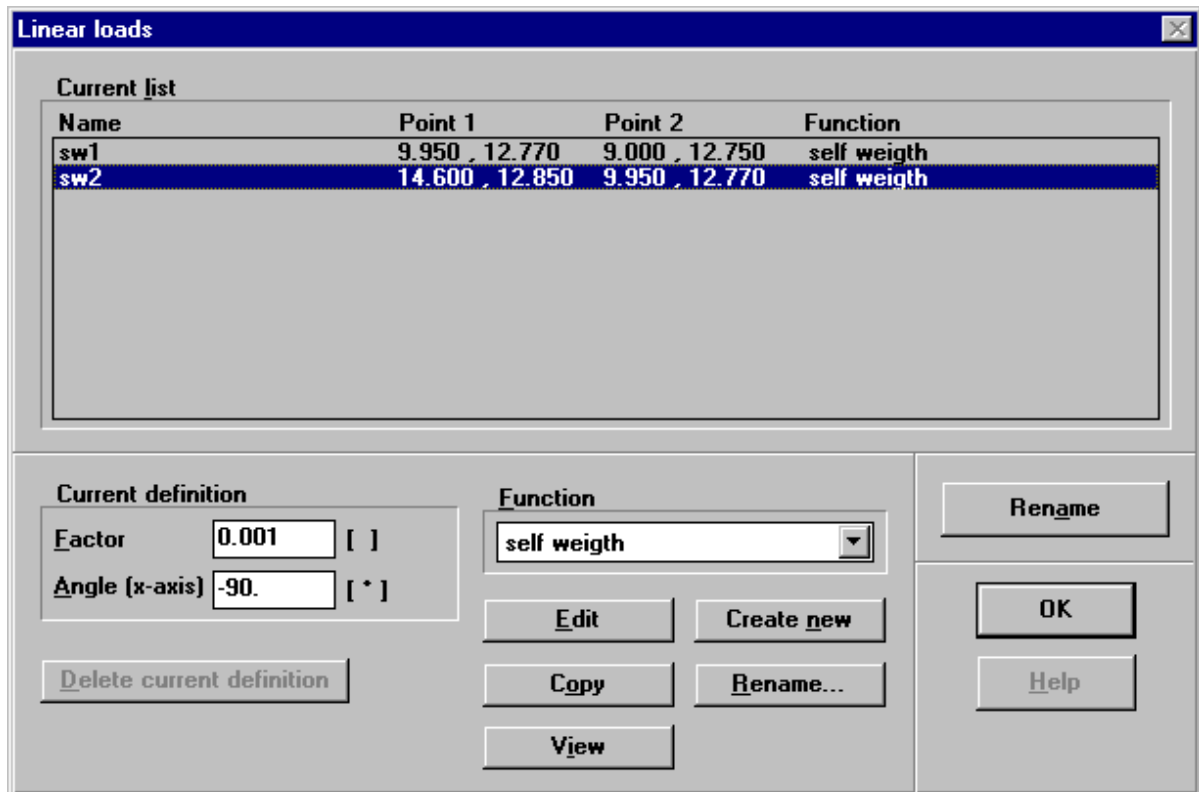

Figure 6.36
3. Click the add line load  button. This brings up the Line load dialog box. The Line load dialog box is divided into three subareas: The current list, the current definition and the function. See figure 6.36.